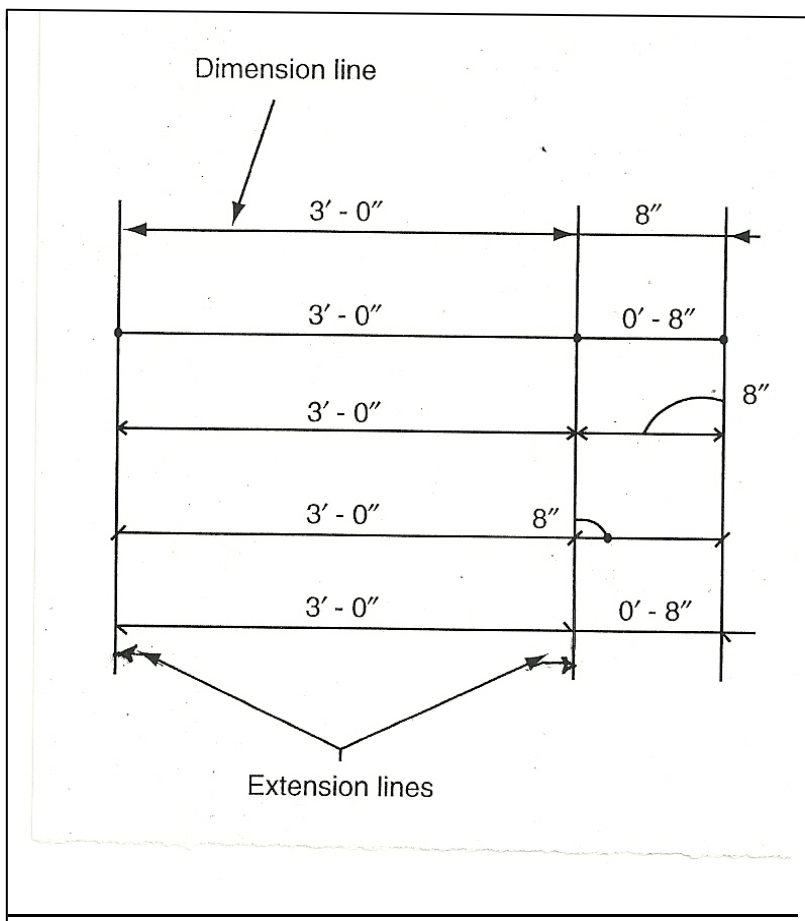

Figure III.2 Dimension and Extension Lines
- Dimensioning and extension lines – Dimension and extension lines are thin lines that indicate the extent and direction of dimensions. See Figure III.2 for an illustration.